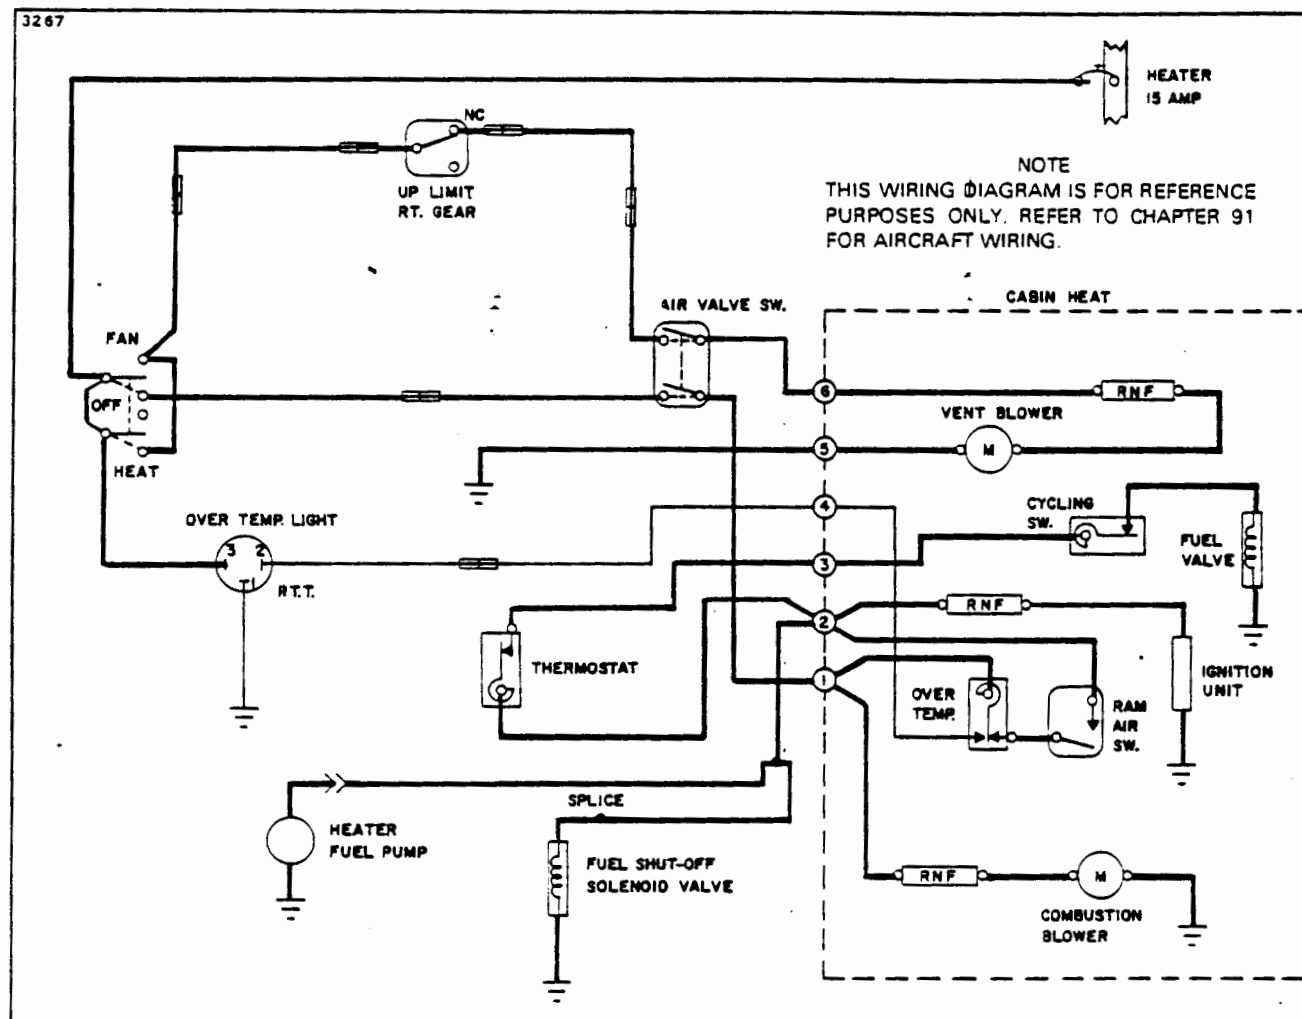

Figure 21-9. Starting Power Circuit
1. With the HEATER SWITCH in the HEAT position, voltage should be present at the following locations: (Refer to Figure 21-9.)